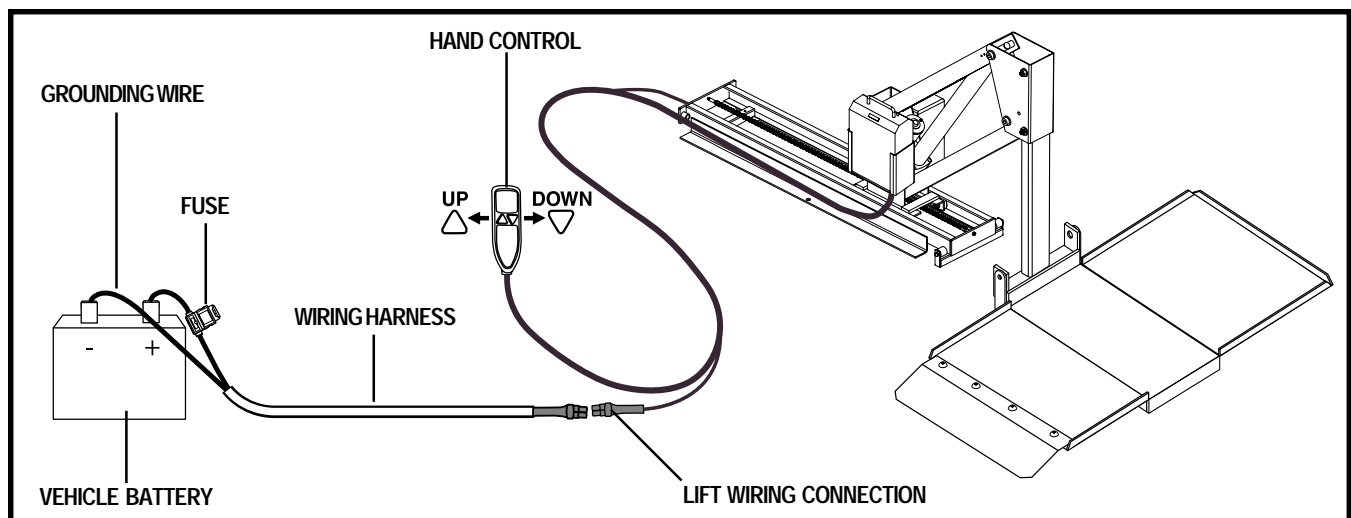

Figure 5. Wiring Harness Installation
1. Route the lift system wiring harness (starting at the lift) through the interior of the vehicle until you reach the vehicle battery. See figure 5.
4. Remove the 15-amp fuse from the wiring harness. See figure 5.